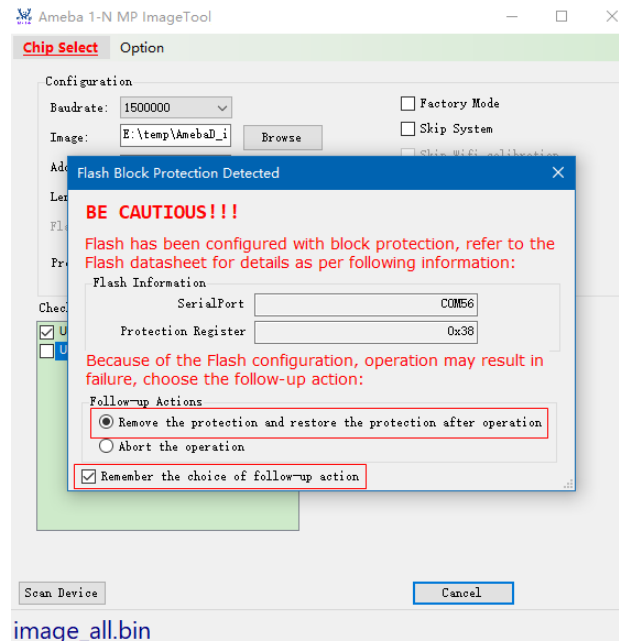

Figure 5-2 Flash block protection detected
- You can process flash BPs for download as needed, as Figure 5-2 shows.